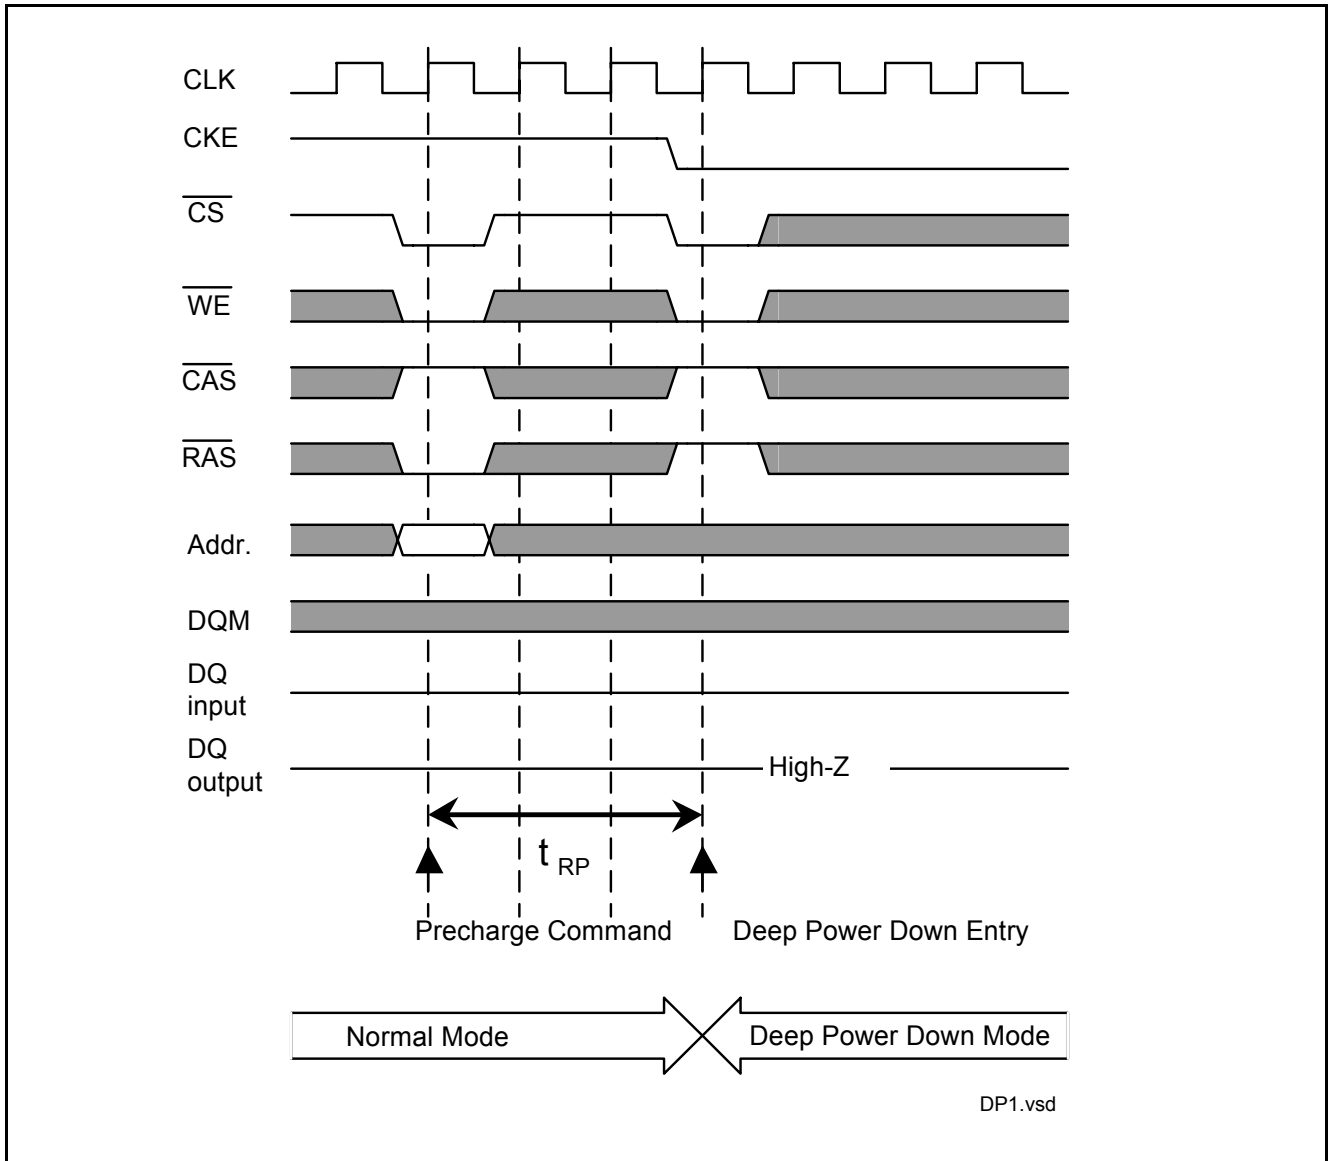

Figure 36 Deep Power Down Mode Entry
- **Figure 36** Deep Power Down Mode Entry